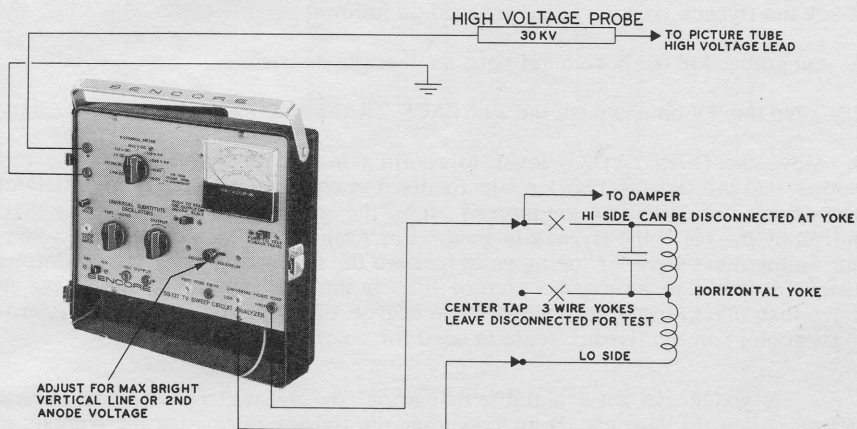

Fig. 3. Disconnecting the "hot" lead feeding the yoke and connecting it to the SS137 substitute winding.
2. Disconnect the lead going to the high side of the yoke (the connection nearest the horizontal output tube plate). It can be disconnected right at the yoke if you desire. On yokes that have three leads, both the high side and center tap must be disconnected. (See Fig. 3)